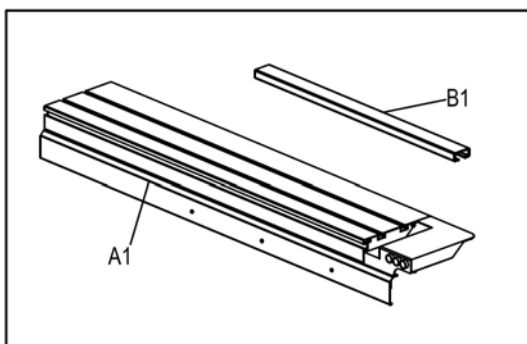

Fig.9
----Sliding Table Box Contents: (Fig.9)